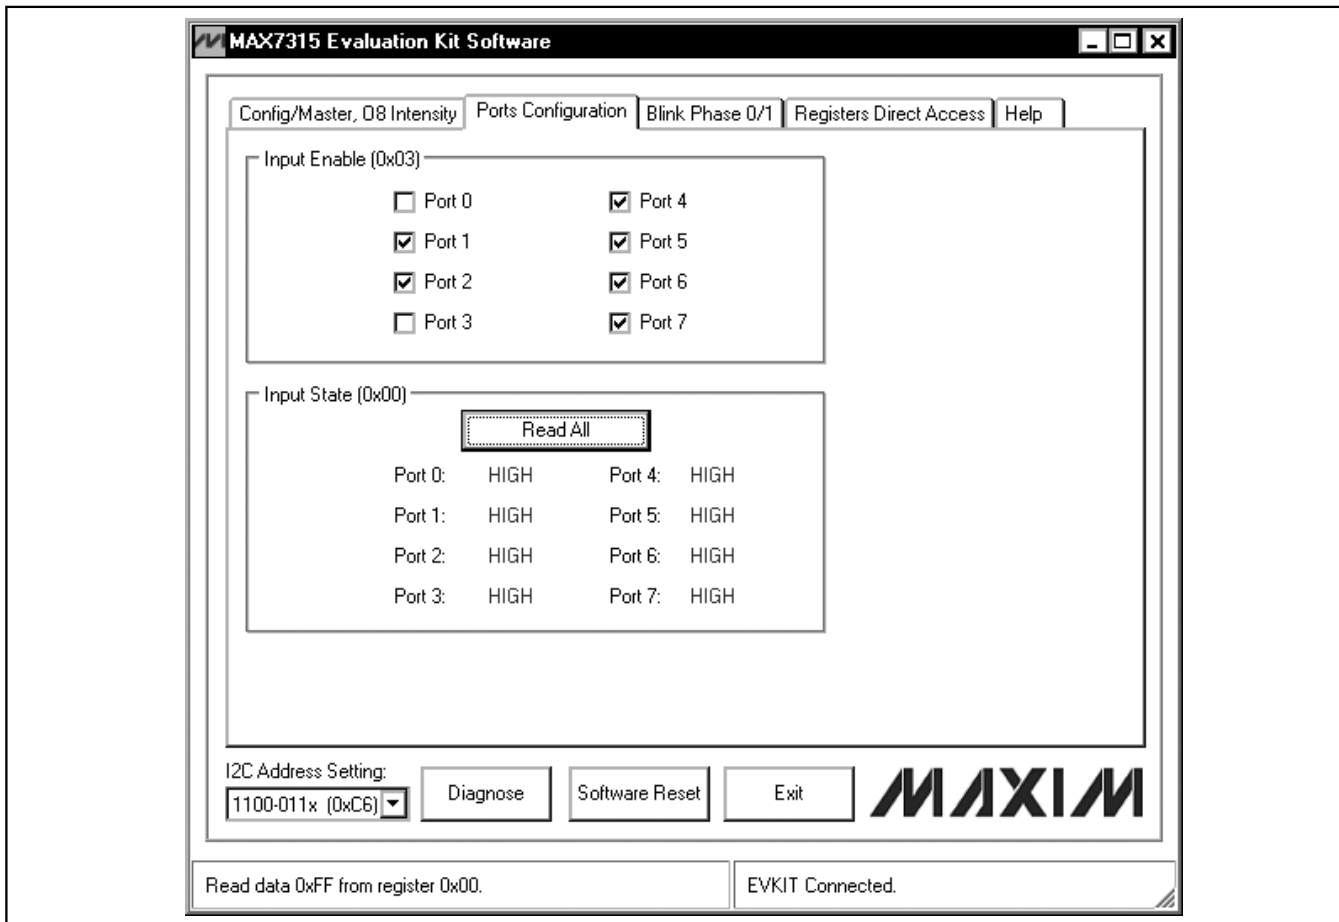

Figure 2. Ports Configuration Tab
- 12) Switch to the **Ports Configuration** tab (Figure 2). In the **Input Enable (0x03)** group box, uncheck **Port 0** and **Port 3**. Click the **Read All** button in the **Input State (0x00)** group box.